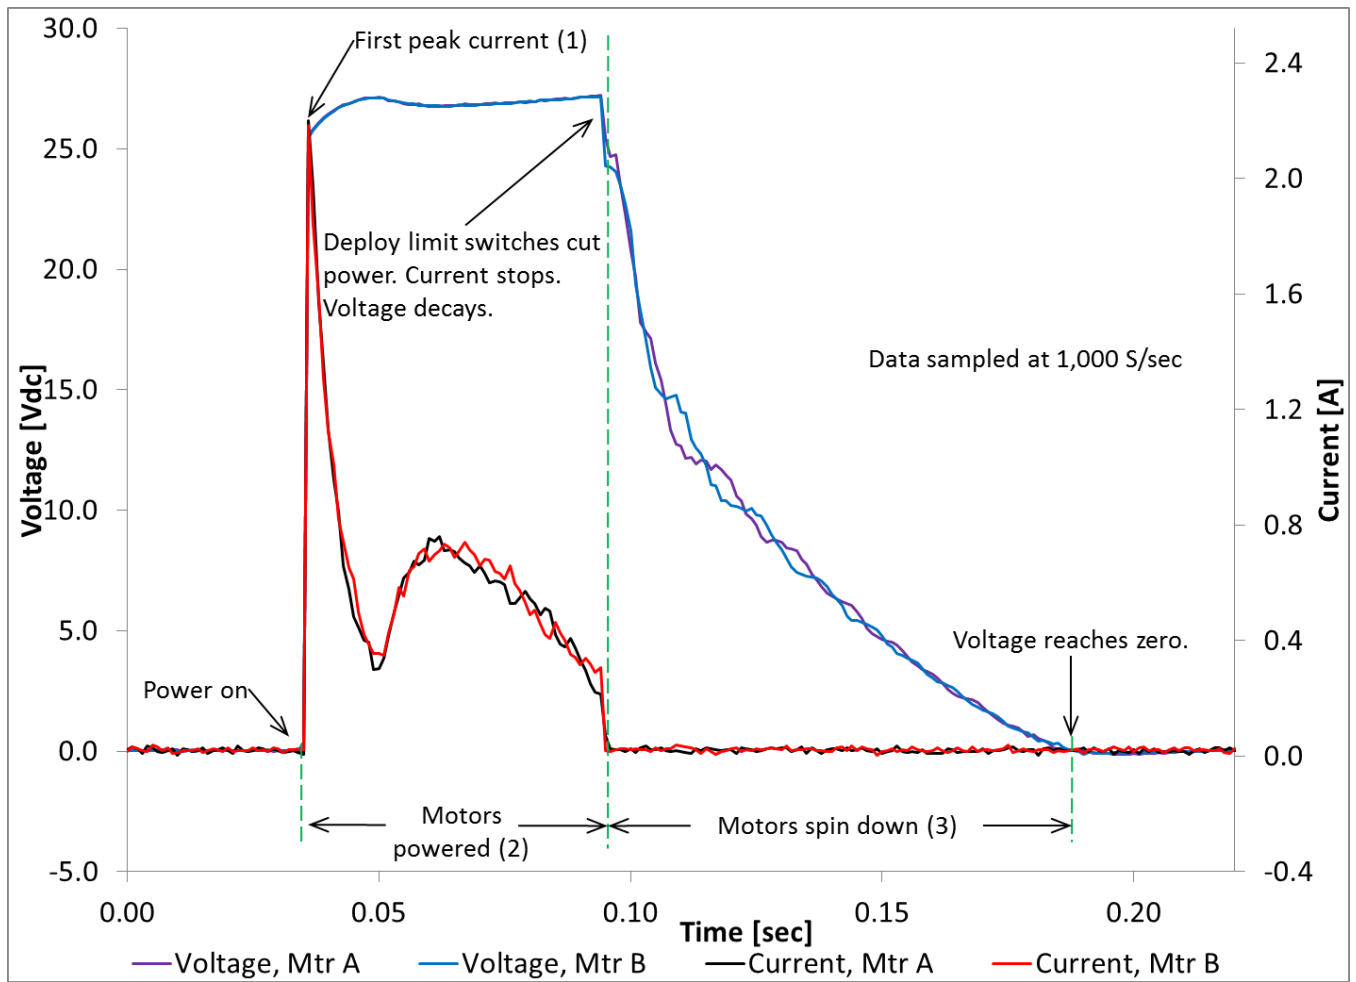

Figure 31: Typical deploy voltage and current profiles at P = 1.0 Atm and T = +23 deg C
9.1.14	Figure 31 shows typical deploy voltage and current profiles. Complete Table 3 to verify all parameters are within tolerance. Single data point exceedances are acceptable. Also, a slow sample rate may alias data. Do not filter data. Contact PSC immediately if a discrepancy is found.